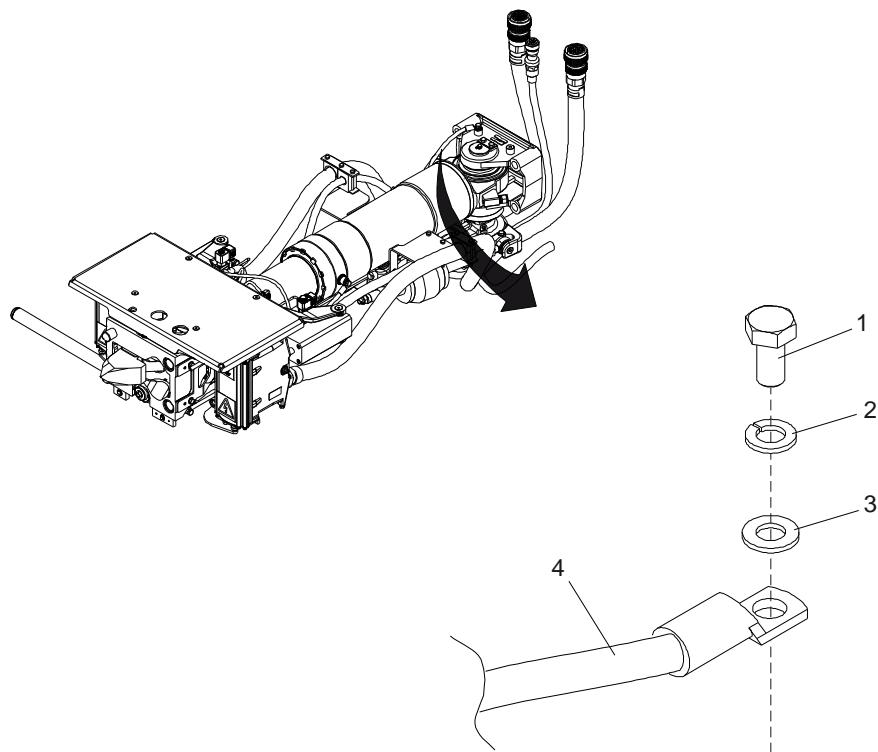

Figure 7-11: Replacement of Ground Cables
1. Remove a ground cable (4) by removing screws (1), lock washers (2) and washers (3). See Figure 7-11.
2. Mount a ground cable (4) by mounting washers (3), lock washers (4) and screws (1). See Figure 7-11.